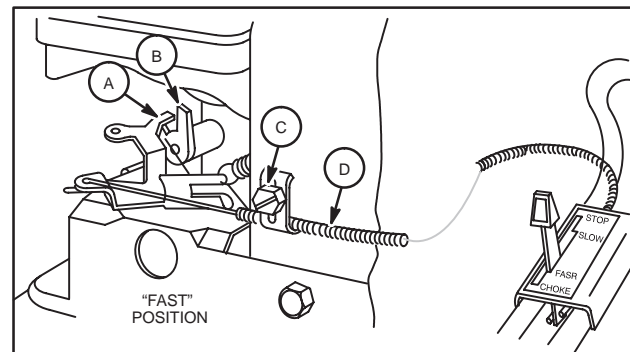

Fig. 253 - CHOKE-A-MATIC® CONTROL, TYPICAL
2. Then mount remote control with casing clamp as shown in Fig. 253.
6. Tighten screw "C." Recheck operation of controls after adjustment, Fig. 253.